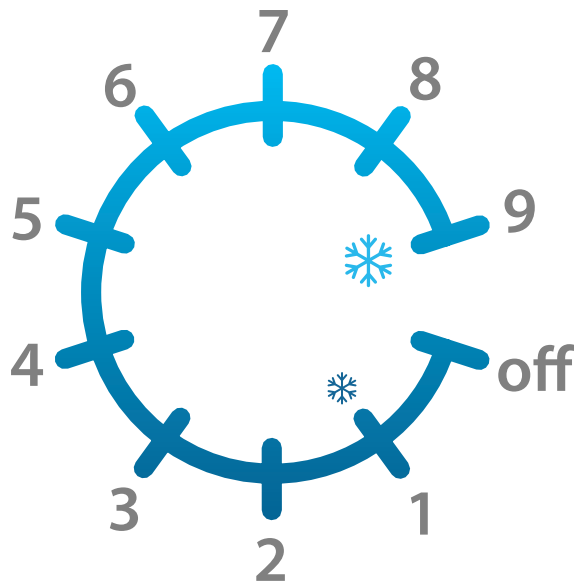

Fig. 2. Temperature control knob settings. **1** is the warmest setting; **9** is the coldest.
Turn the temperature control knob clockwise to lower the temperature setting and counterclockwise to raise the temperature setting. One (1) is the warmest setting; Nine (9) is the coldest. See fig. 2.